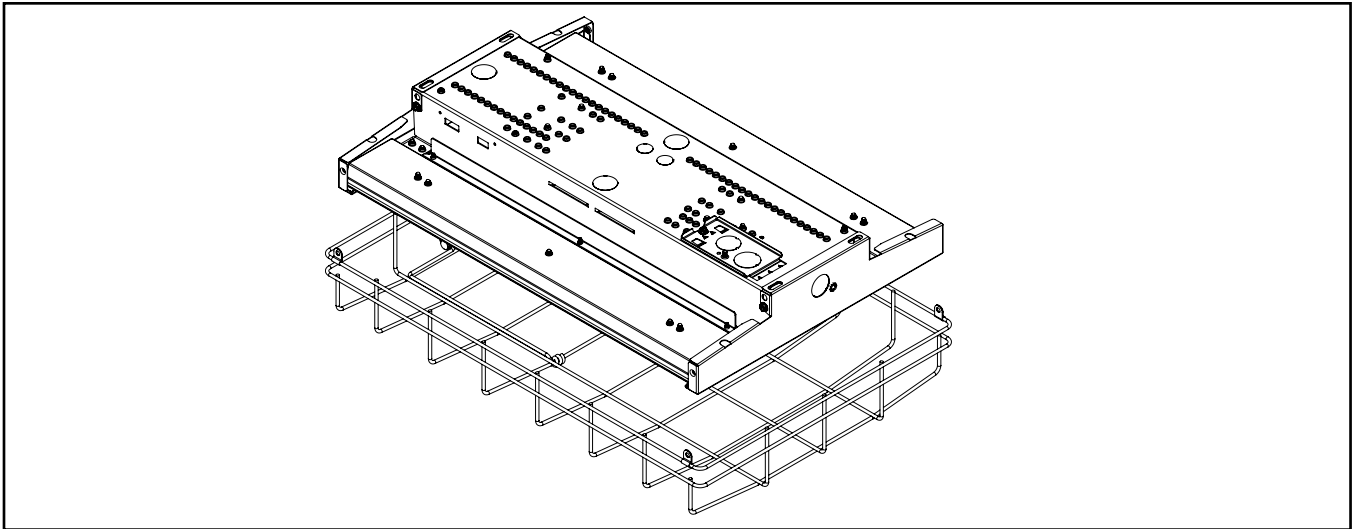

**Figure 4.**
4. Install the 4 wire guard mounting clips to each corner of the guard as shown in (Figure 4).